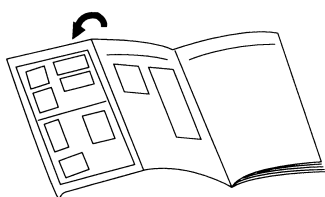

Fig. 6 Remote Controller
- 1 **Press the CLOCK ADJUST button (Fig. 6 ③④).**
- 2 **Use the TIMER SET (\boxplus / \boxminus) buttons (Fig. 6 ③③) to adjust the clock to the current time.**
- 3 **Press the CLOCK ADJUST button (Fig. 6 ③④) again.**